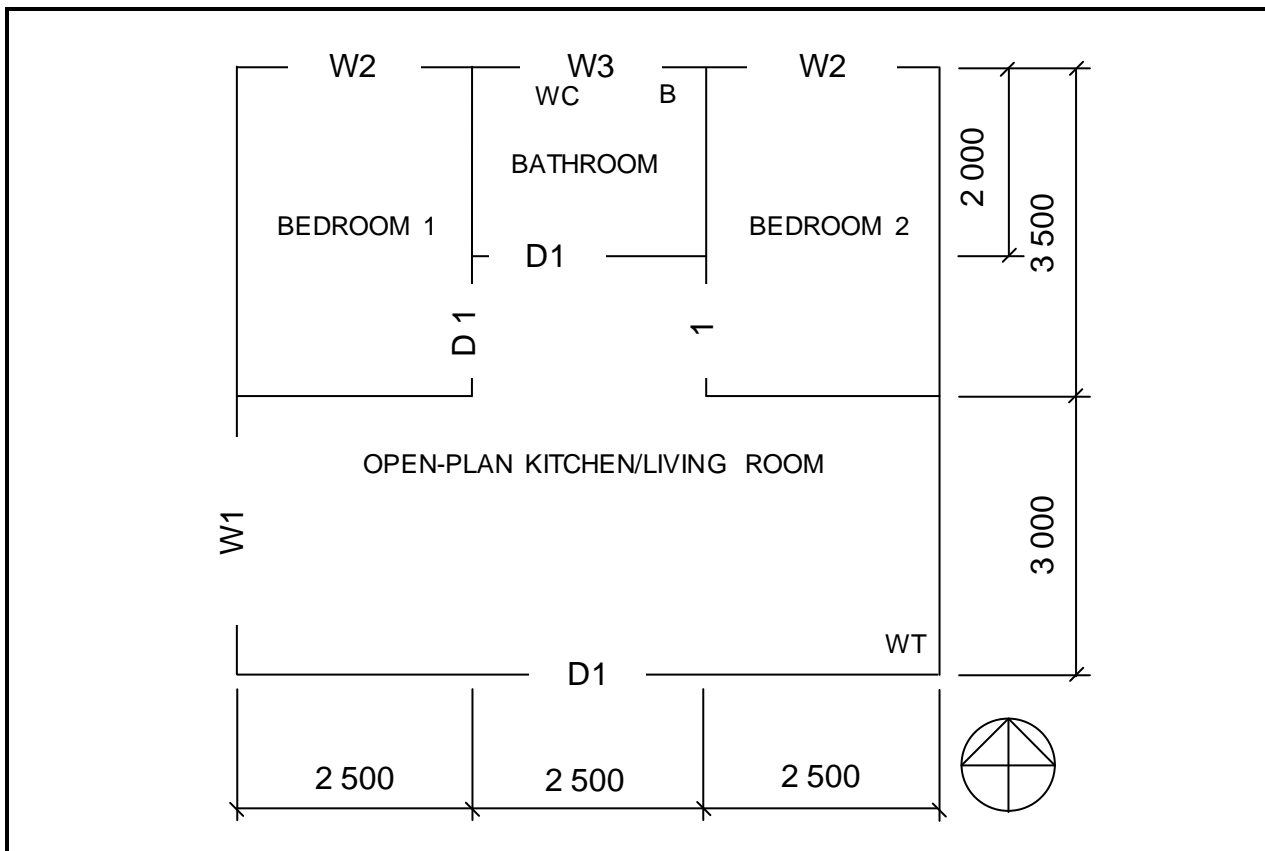

FIGURE 6.2
6.2 FIGURE 6.2 below shows a line diagram of the floor plan of a two-bedroom house.
Study FIGURE 6.2 and develop and draw, on ANSWER SHEET 6.2, to scale 1 : 50, the FLOOR PLAN of the building. Use the specifications below and on the next page. (Use the assessment criteria on ANSWER SHEET 6.2 as a guideline for your drawing.)